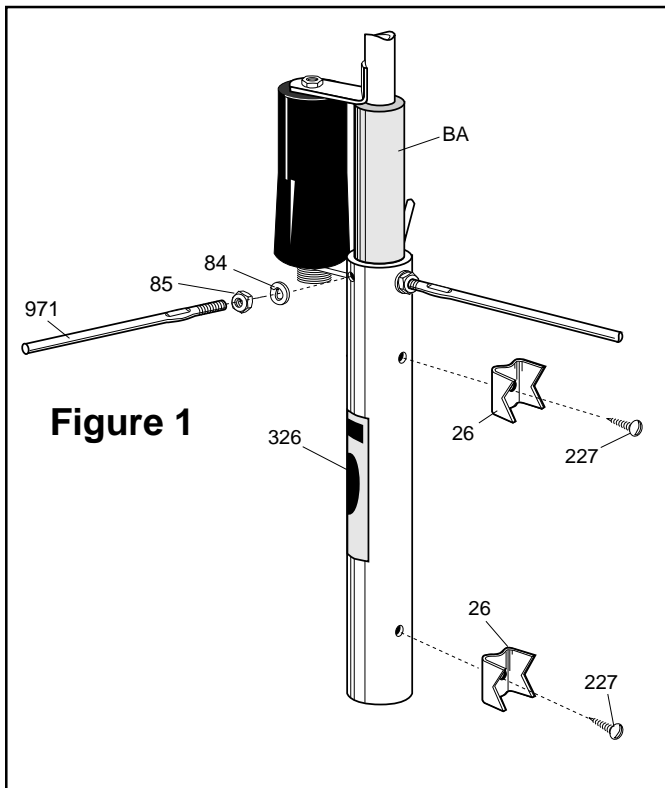

Figure 1
WARNING: THIS ANTENNA IS AN ELECTRICAL CONDUCTOR. CONTACT WITH POWER LINES CAN RESULT IN DEATH, OR SERIOUS INJURY. DO NOT INSTALL THIS ANTENNA WHERE THERE IS ANY POSSIBILITY OF CONTACT WITH OR HIGH VOLTAGE ARC-OVER FROM POWER CABLES OR SERVICE DROPS TO BUILDINGS. THE ANTENNA SHOULD NOT BE LOCATED WHERE PEOPLE OR PETS CAN COME IN CONTACT WITH IT. THE ANTENNA, SUPPORTING MAST AND/OR TOWER MUST NOT BE CLOSE TO ANY POWER LINES DURING INSTALLATION, REMOVAL OR IN THE EVENT PART OF THE SYSTEM SHOULD ACCIDENTALLY FALL. APPLY THE ELECTRICAL SHOCK WARNING LABEL (326) TO A PROMINENT LOCATION ON THE ANTENNA BASE AS SHOWN ON FIGURE 1. FOLLOW THE GUIDELINES FOR ANTENNA INSTALLATIONS RECOMMENDED BY THE U.S. CONSUMER PRODUCT SAFETY COMMISSION AND LISTED IN THE ENCLOSED PAMPHLET.
Thread the three ground radials (971) into the base section using the washers (84) and nuts (85) provided (figure 1). Insert all three radials (971) an equal amount until they touch each other inside the antenna base assembly (BA). Be very careful not to overtighten the radial rods or their clamping nuts (85). Over tightening may cause permanent unwarranted damage. Next place the worm clamp (407) on the top of the base section. Insert TA into BA and set to dimension A (figure 2) and tighten the clamp. Affix danger label (326) to base (figure 1). Attach aluminum brackets (26) with self tapping screws (227) as shown.